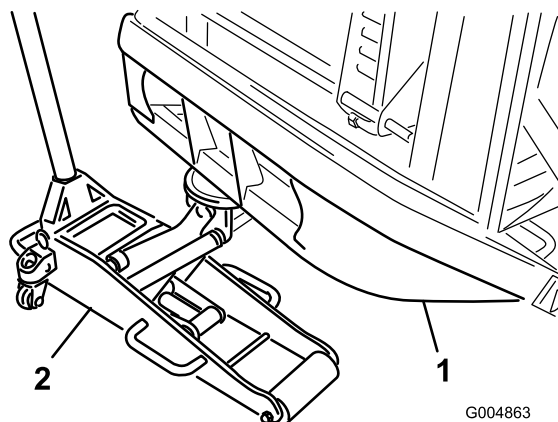

Figure 5
2. Place a jack stand under each wheel motor and a floor jack under the rear bumper (Figure 5), or suspend from a over head hoist.